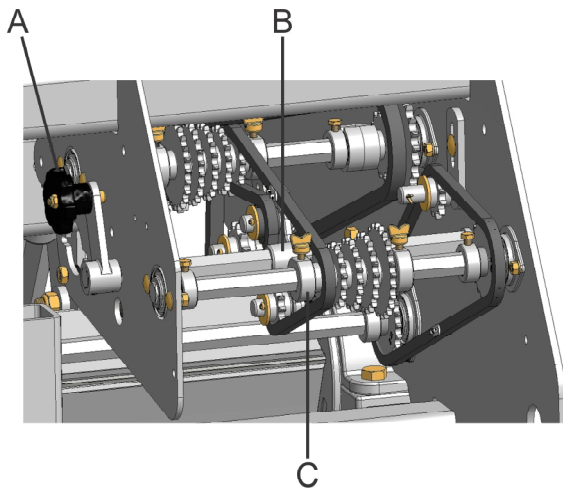

fig. 07
Operate the lever (A) (fig. 07) to relieve the stretcher (B) of chain. Move the gears on the axle, aligning the gears chosen with the chain, position the thrust bushings (C), release the lever (A) releasing the stretcher (B).